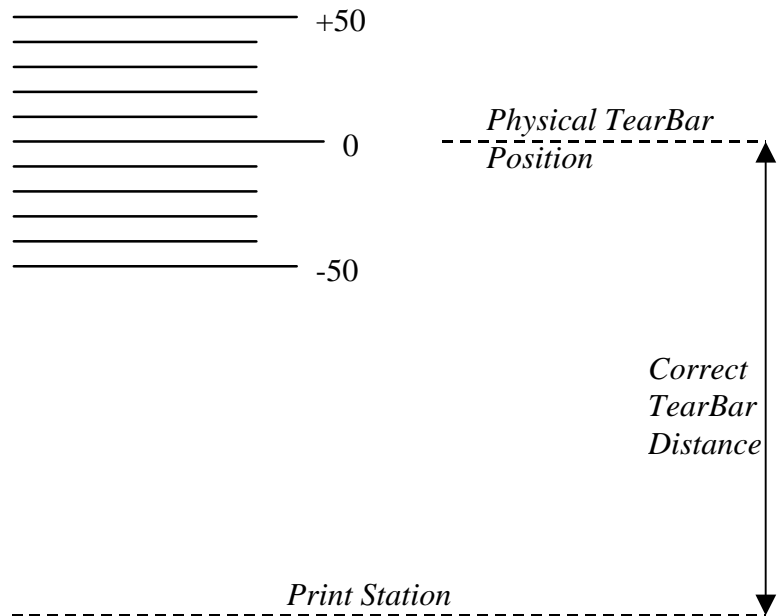

Figure 7. Correct Tear Bar Distance
9. Press **ENTER** to select the desired value. An asterisk appears next the selected value and a scale prints to indicate the tear bar distance in relation to the tear bar. For correct tear bar distance, the zero should align with the tear bar. See Figure 7.